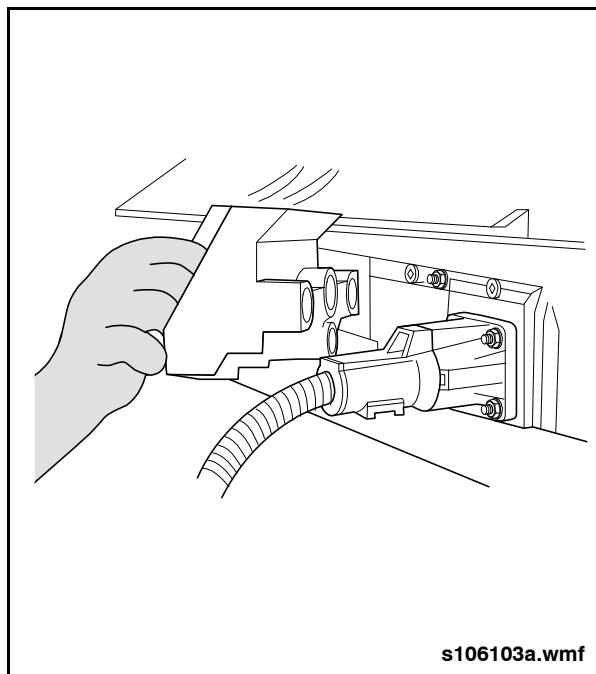

Fig. 53: ESS HVL Cover Removal
5. Remove both HVIL covers on the ESS. See "Fig. 53: ESS HVIL Cover Removal" on page 3.